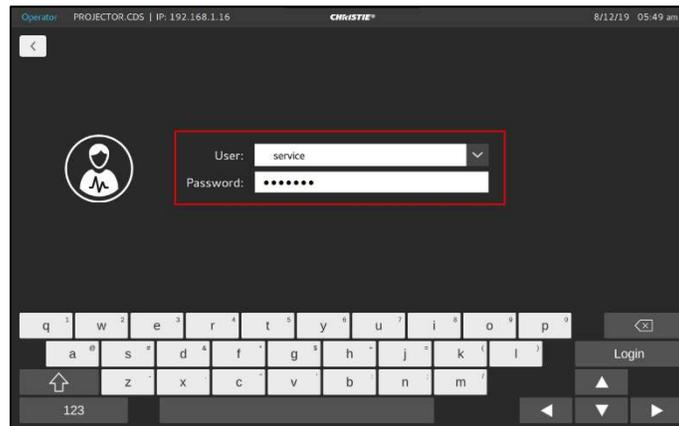

Figure 27: Type Username & Password
3. Enter Username as 'service' and the corresponding password and click the **Login** button (as shown in **Figure 27**).